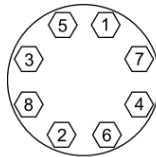
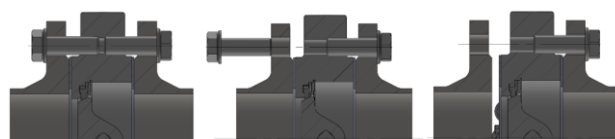

Fig. 9: Cross tightening
Fig. 10: Removing the flange behind the valve
- Install the remaining bolts. Always tighten bolts in a cross pattern (see. Fig. 9).
- Gradually loosen the screws in a cross pattern as shown in Fig. 9 on the side behind the valve, then remove the flange and pipe behind the valve (Fig. 10).